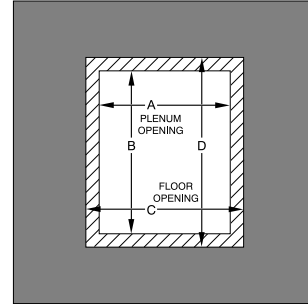

Fig. 10 – Floor and Plenum Opening Dimensions
2. Construct hole in floor. (See Table 3 and Fig. 10).
3. Construct plenum to dimensions specified. (See Table 3 and Fig. 10).